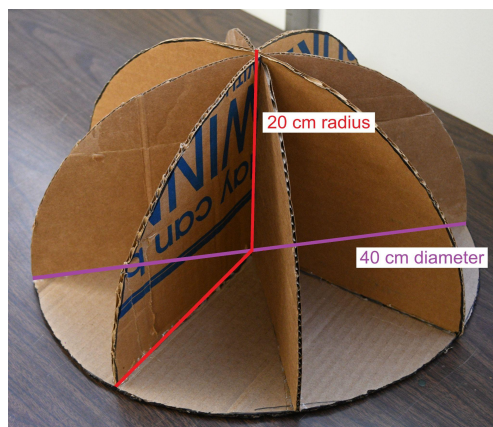

Figure 3. Internal measuring device.
- 20 cm radius half-sphere Internal Measurement Device (see Figure 3)
- 1) Prior to load testing, the structure receives a specification check to determine whether it conforms to the weight, dimensions, and construction rules. An internal measurement device (see Figure 3 below) will be used to ensure that competing teams have left enough clearance inside of their structure to meet specifications.